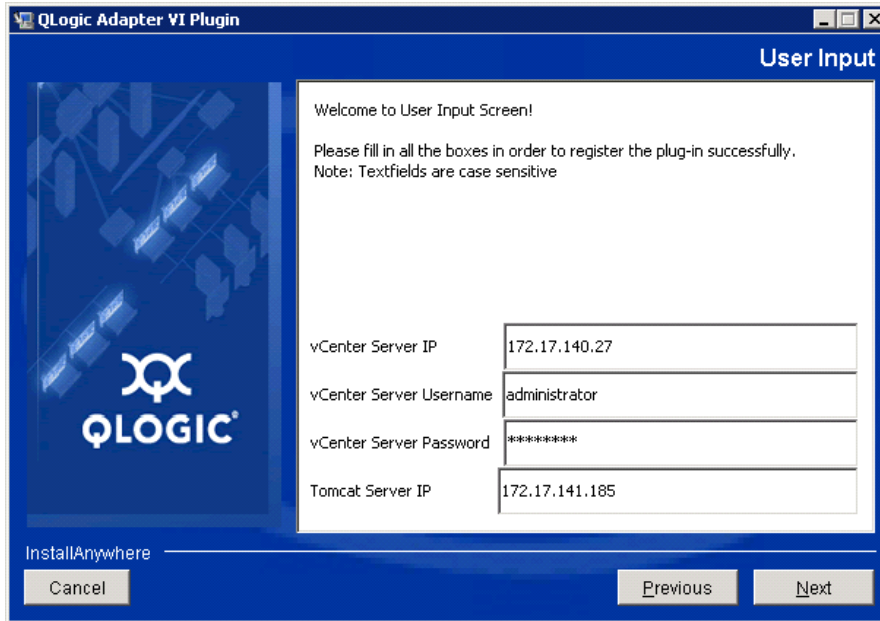

Figure 2-14. QLogic Adapter VI Plug-in Wizard: User Input
5. Type the requested information in the boxes, and then click **Next** (see Figure 2-14).